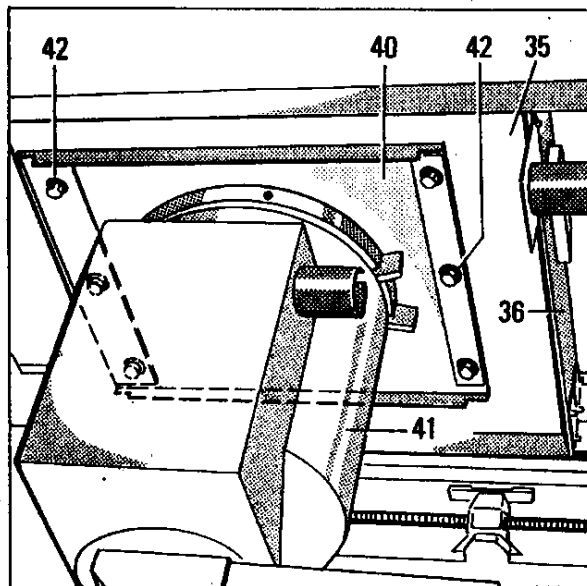
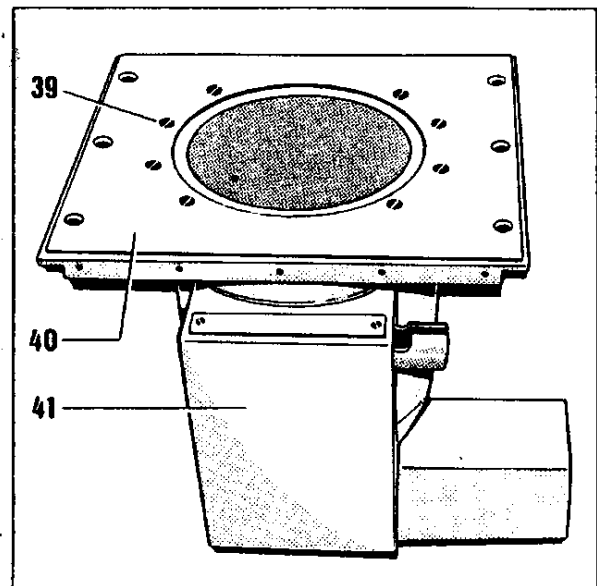

Fig.9
Fig.10
Drive Bucky carriage (Fig.9,item 35) to the foot end. Remove mounting bracket. Place mounting the Bucky (item 36) from the head direction to the foot direction on the Bucky carriage. Cassette opening must face to the front and the motor drive must face to the head end. Fasten Bucky with screws on both sides.
Mount I.I. flange plate (Fig.10, item 40) to I.I. housing (item 41) with screw (item 39) and assemble on the back of the Bucky carriage (Fig.9, item 35) with screws (item 42) collars (washers) and srews Max. starting torque 20 Nm